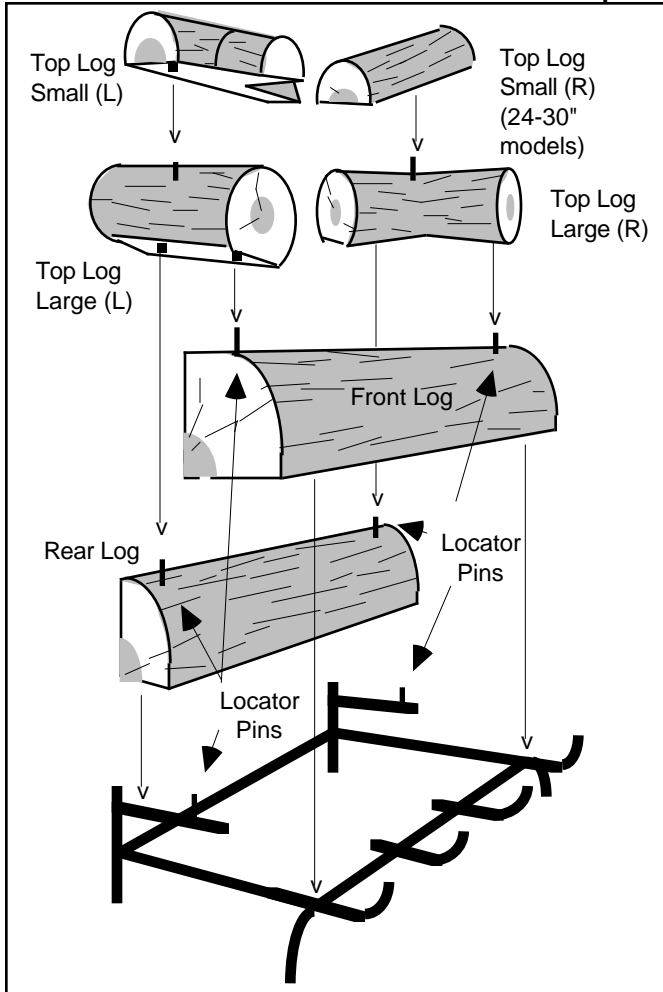

Figure 5
2. Place largest log (FRONT LOG) in the front of the grate and the second largest log (REAR LOG) on the rear of the grate behind the LOCATOR PINS. (Figures 5 and 6).
3. Place both Right and Left LARGE TOP LOGS across the FRONT and REAR logs with the LOCATOR PINS inserted into the drilled holes located on the bottom of both LARGE TOP LOGS. (Figures 5 and 6).
4. Place (R) and (L) SMALL TOP LOGS (24 and 30" models) across the FRONT LOG and LARGE TOP LOGS.
- Maintain log positioning as shown in Figures 5 and 6 or 7 and 8 at all times.